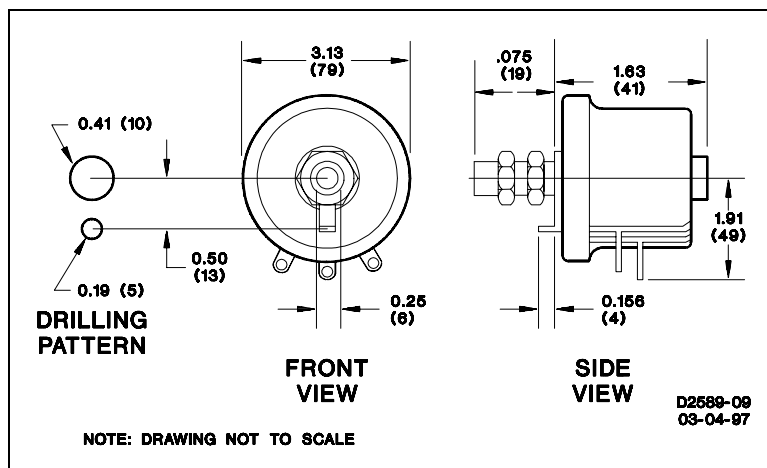

Figure 3-3. Paralleling Potentiometer (P/N 03469).
a. The regulator may be equipped with a switch to allow removal of excitation from the field in an emergency or when the generator prime mover must be operated at reduced speed. (See Figure 3-3.) If this switch is not used, it is recommended it be temporarily installed for initial operation.